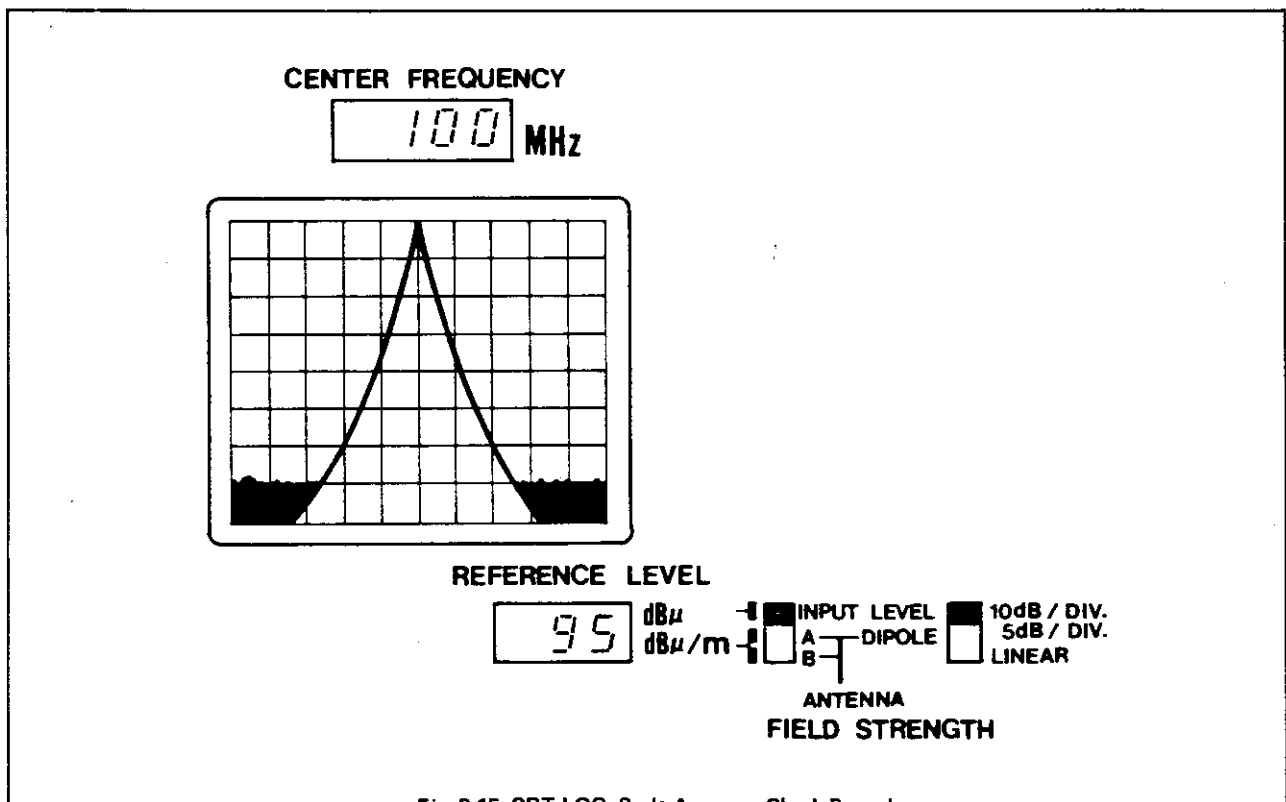

Fig. 3-15 CRT LOG. Scale Accuracy Check Procedure
(3) Switch **IF GAIN-CAL.** so that the signal peak comes to the horizontal top line. [Fig. 3-15].